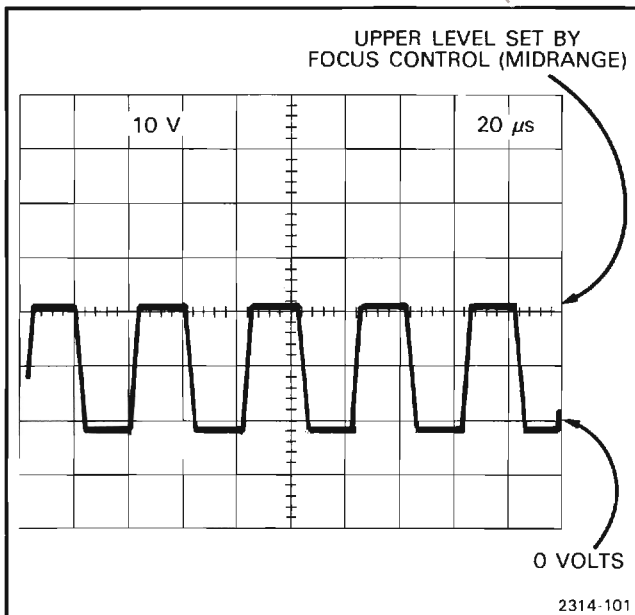

Figure 4-11. Typical waveform at junction of R1814 and CR1816 on the High Voltage circuit board.
1. Check that the waveform at the junction of R1814 and CR1816 is similar to that shown in Figure 4-11.
- e. If the waveform is not as shown in Figure 4-11 and the dc level is above ground with the FOCUS control at midrange, check diode CR1818 or CR1819 for a short.
- f. If the waveform does not appear as shown in Figure 4-11, the Focus Grid DC Restorer may not be receiving drive signal from the high voltage transformer. Check resistors R1788, R1789, R1813, and R1814.